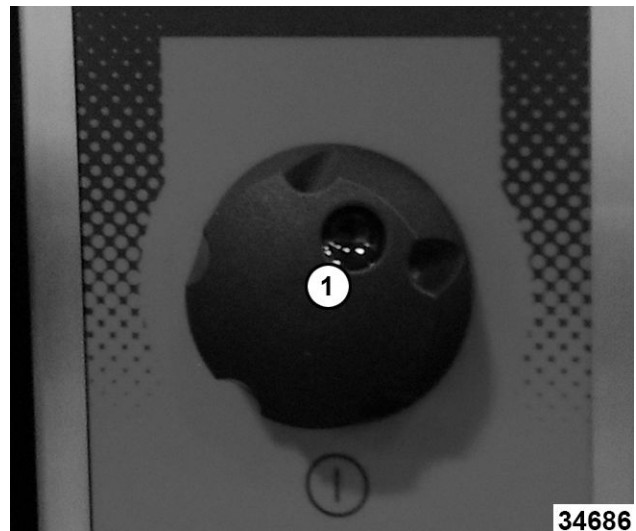

Fig. 11
1. Pull encoder knob (1, Fig. 11) off control panel.